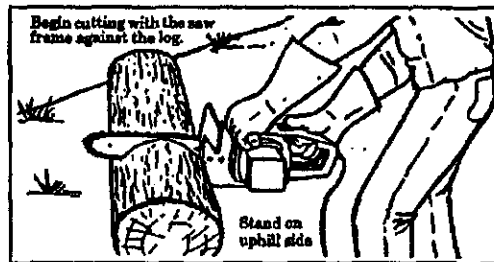

Figure 17
- d. Begin cutting with the saw frame against the log. Figure 17.
- g. Plan to stand on the up-hill side when cutting on a slope. Figures 17 & 18.